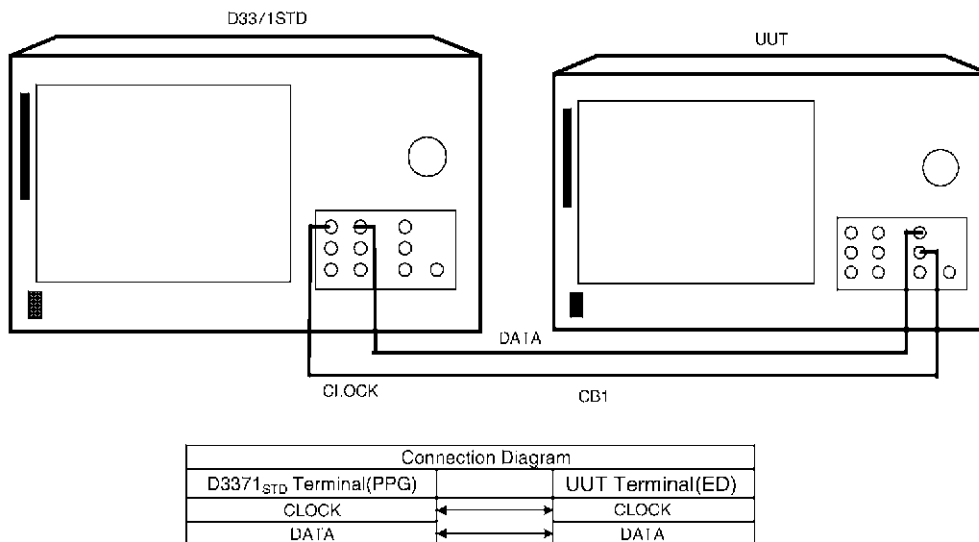

Figure 1-8 Setup of Data Pattern Receiving Test
1. Connect equipment as shown in Figure 1-8.